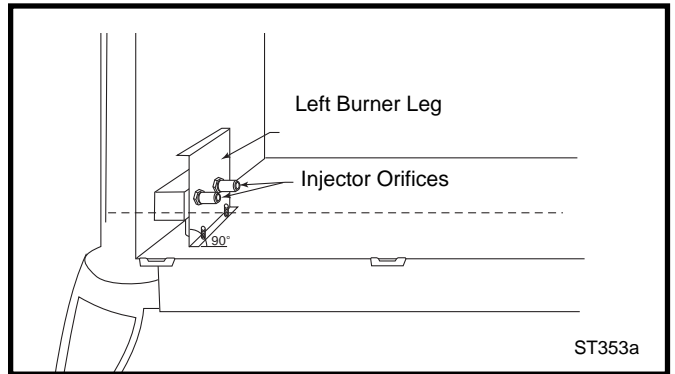

Fig. 58 Remove and replace injector orifices.
14. Remove injector orifices from left burner leg using 1/2" wrench. (Fig. 58)
**NOTE:** It is very critical to keep the left burner leg, which holds the injectors, at a 90° angle to the base. (Fig. 58) This keeps the orifices aligned with the tubes inside burner. Failure to do so could affect the flame appearance and performance of the unit.